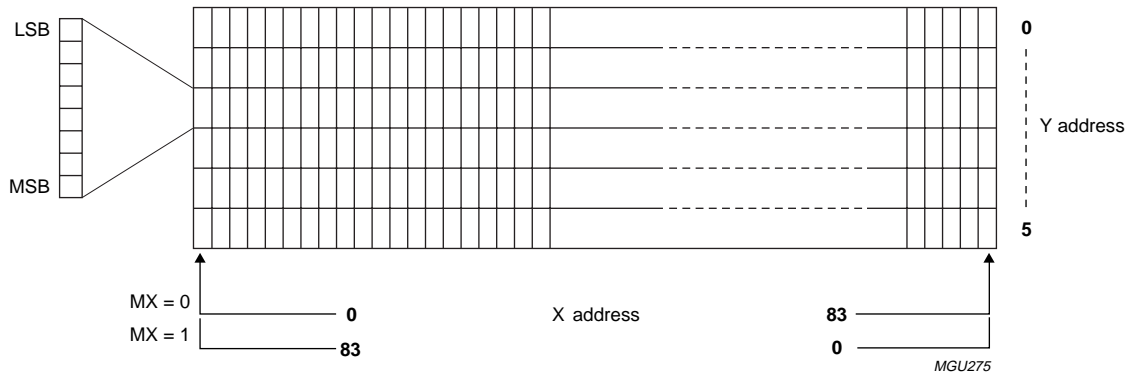
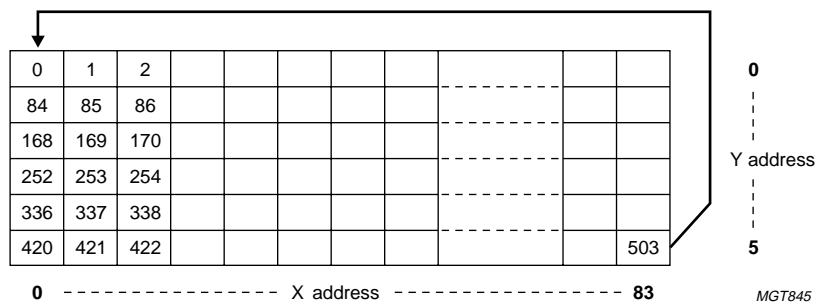

Fig.6 RAM format, addressing.
Fig.7 Sequence of writing data bytes into RAM.
Data is downloaded in bytes into the RAM matrix of OM6211 as illustrated in Figs 6 and 7. The display RAM has a matrix of 48×84 bits. The columns are addressed by the address pointer. The address ranges are $X = 0$ to 83 (1010011) and $Y = 0$ to 5 (101). Addresses outside of these ranges are not allowed. The X address increments after each byte (see Fig.7). After the last X address ($X = 83$) X wraps around to 0 and Y increments to address the next row. After the very last address ($X = 83$ and $Y = 5$) the address pointers wrap around to address $X = 0$ and $Y = 0$.
The selection of the MX input allows horizontal mirroring: when $\text{MX} = 1$, the X address space is mirrored (see Fig.6). When $\text{MX} = 0$ the mirroring is disabled. MX affects data only during writing to the RAM, so after a change of MX RAM data must be re-written.